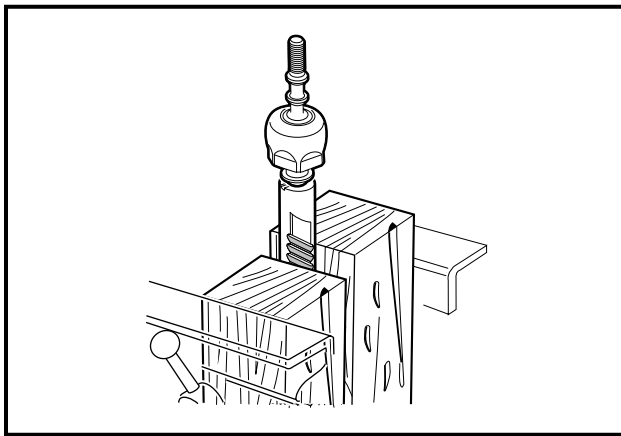

Figure 7-18 Remove Rack
- 13.1. Secure the rack in a vise (**Figure 7-18, Page 7-9**). Use wood blocks between the rack and the jaws of the vise to protect the rack from damage.